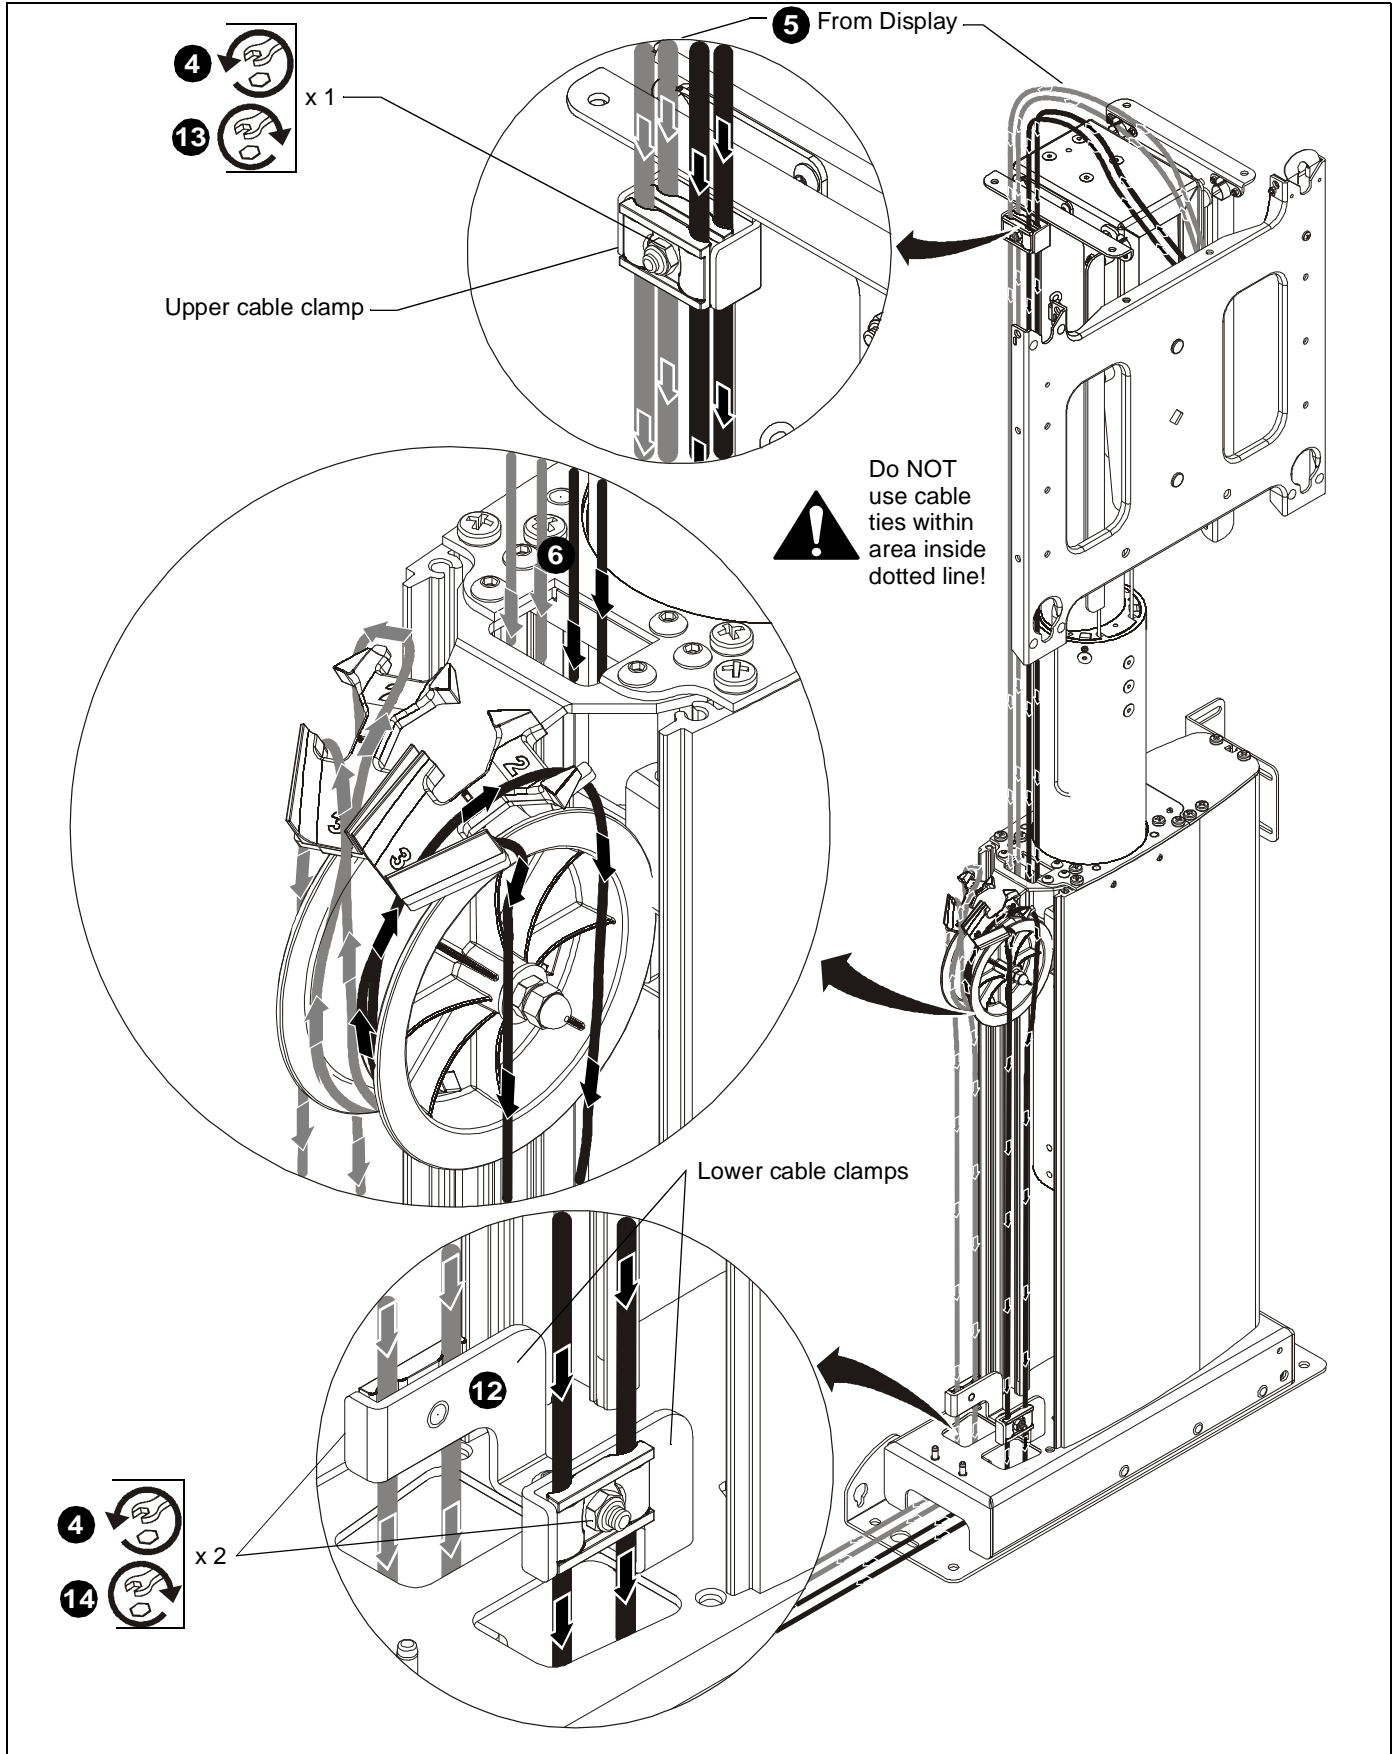
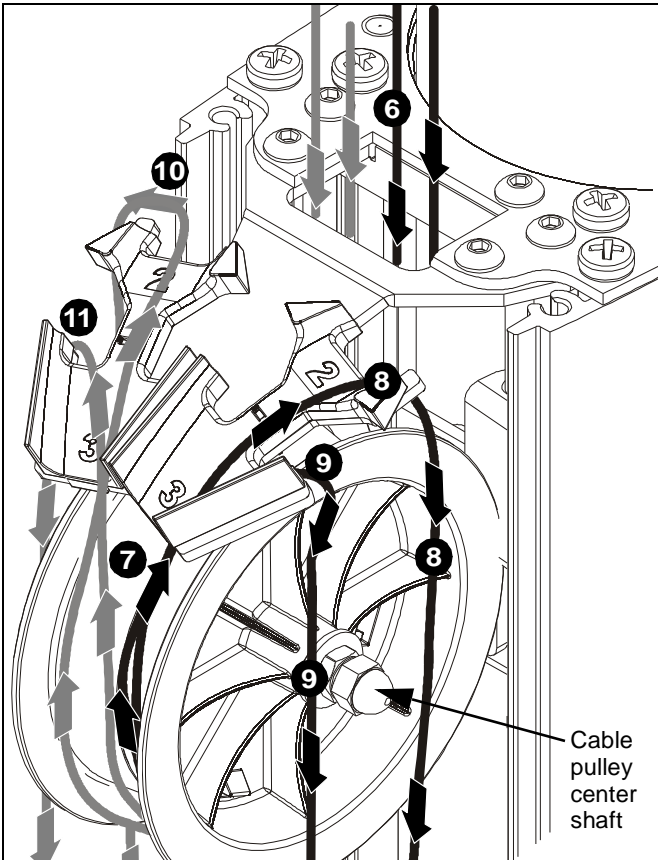

Figure 10
Figure 11
4. Loosen three cable clamps. (See figure 10)
5. Route cable(s) down through upper cable clamp. (See figure 10) and (See figure 11)
6. Route cable(s) down through opening **behind** cable pulley. (See figure 10) and (See figure 11)
- Ensure that cables on rear side of CM2 (gray) stay towards rear side of cable pulley. (See figure 10) and (See figure 11)
- Ensure that cables on front side of CM2 (black) stay towards front side of cable pulley. (See figure 10) and (See figure 11)
7. Route cables under cable pulley and up over **top** of cable pulley. (See figure 10) and (See figure 11)
8. Route one cable from front (black) cable clamps through the #2 cable opening and straight down next to the cable pulley center shaft. (See figure 10) and (See figure 11)
9. Route one cable from front (black) cable clamps through the #3 cable opening and straight down next to the other side of the cable pulley center shaft. (See figure 10) and (See figure 11)
10. Route one cable from rear (gray) cable clamps through the #2 cable opening and straight down next to the cable pulley center shaft. (See figure 10) and (See figure 11)
11. Route one cable from rear (gray) cable clamps through the #3 cable opening and straight down next to the other side of the cable pulley center shaft. (See figure 10) and (See figure 11)
IMPORTANT ! : Ensure that cables are not twisted! Cables from front (black) of upper cable clamp (See figure 10) must be on front of cable pulley (See figure 11) and front of lower cable clamp (See figure 10). Cables from rear (gray) of upper cable clamp (See figure 10) must be on rear of cable pulley (See figure 11) and rear of lower cable clamp (See figure 10).
12. Continue routing cable(s) down through lower cable clamps. (See figure 10)
14. Starting at upper cable clamp and working downward, remove slack from all cables and tighten lower cable clamps. (See figure 10)